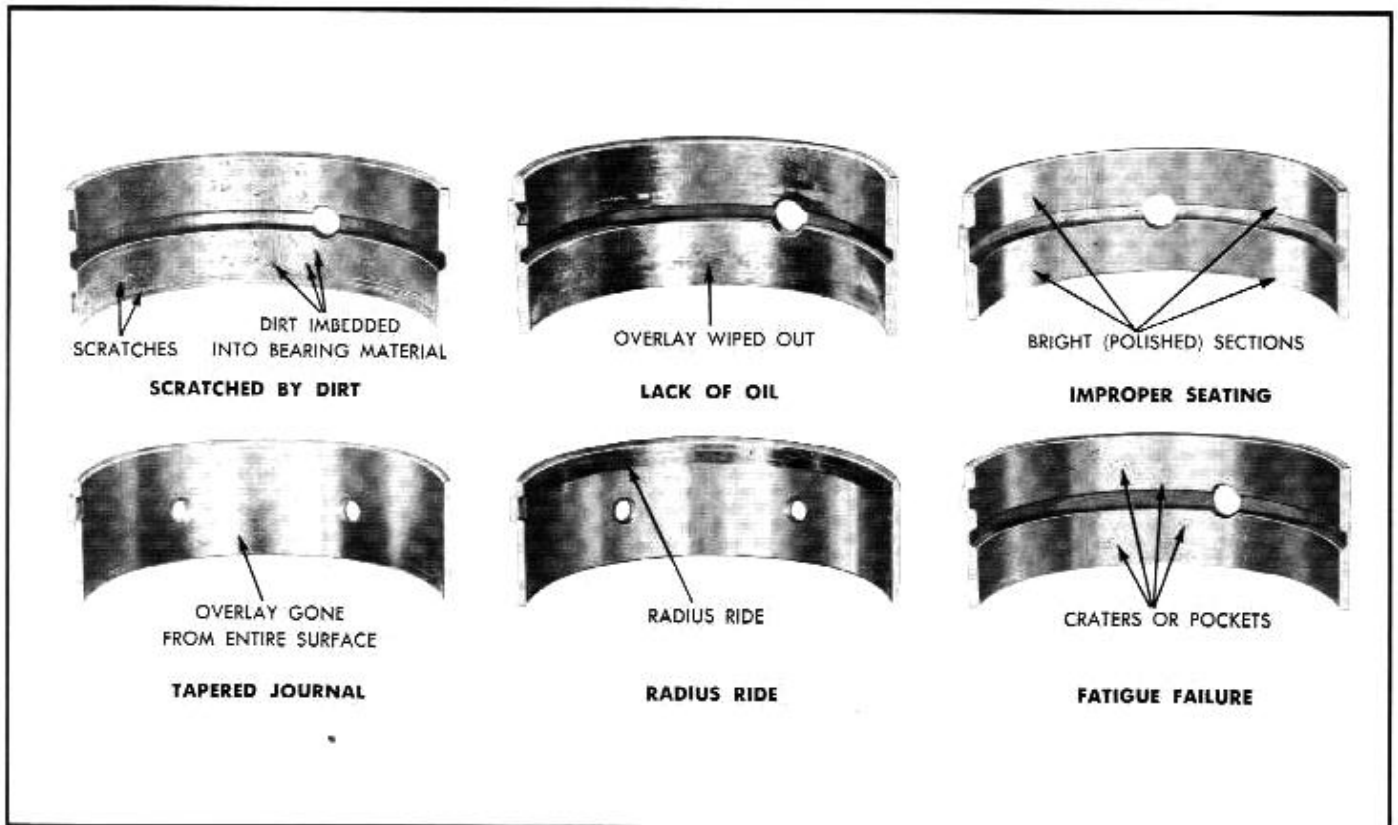

Fig. 6C-87—Bearing Failures — Typical
1. Check the condition of each main bearing one at a time, leaving the other bearings securely fastened. Remove bearing cap and insert. Clean and inspect each bearing carefully. Bearings that have a scored, chipped or worn surface will have to be replaced. Typical examples of bearing failures and their causes are shown in figure 6C-87.